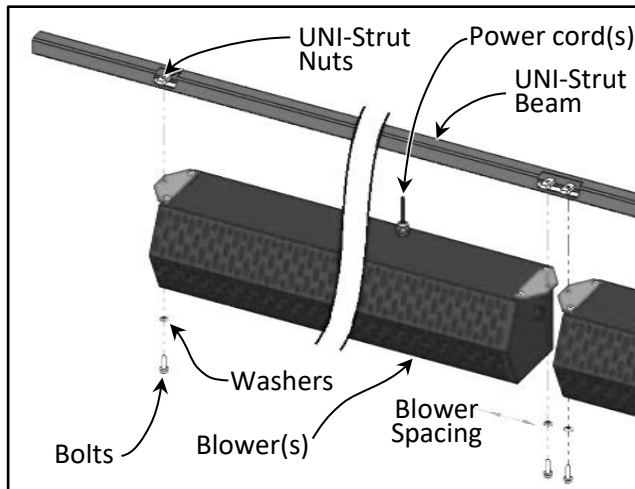
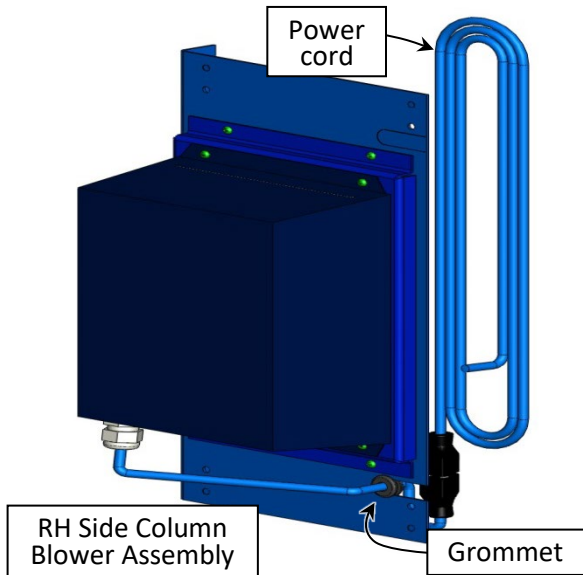
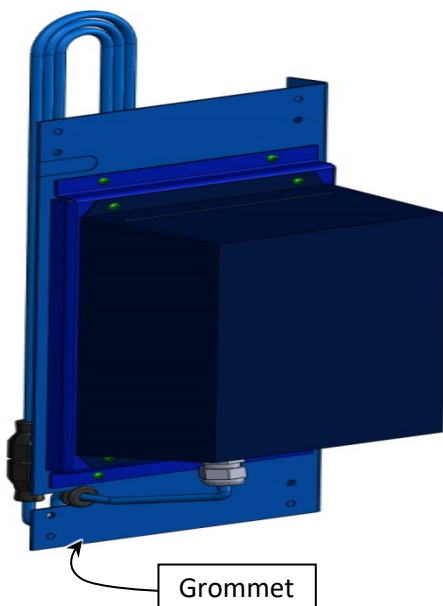
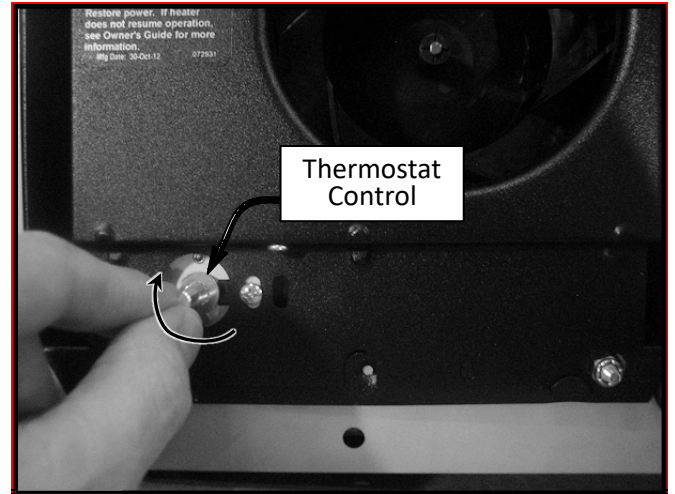

Figure 41
Figure 45
Figure 46
Figure 47
1. Locate and gather all the items in Figure 46. Install each air blower to the UNI-Strut Beam using (2) 3/8-16 x 1.25 in. long hex flange serrated machine screws, Ø3/8 in. flat washers, and 3/8-16 UNI-Strut nuts. Tighten fasteners. Orient the blower(s) with the air intake facing away from the door as shown (See Figure 41)
2. Install the blower mounting brackets to the head assembly with (4) 3/8-16 x 1.25 long Hex Flanged Socket Screws and 3/8 Flat Washers. Both brackets must be aligned and use the same mounting holes on each side of the head assembly mounting plates. (See Figure 41)
The Side Column Heated Blowers are to be installed in the bottom of each side column. They are RH/LH specific, and are **not interchangeable**. Warm air is generated and blown/circulated through the internal side column cavity by the blower and is controlled with a thermostat. (See Figure 45 - Figure 47)
1. Locate and gather all the items in Figure 45/46 along w/ #12-24 x 1/2 Long Hex Flanged machine screws.
5. Confirm that the blower assembly power cords are routed through the mounting plate/grommet as shown. If not, do so. (See Figure 45 and Figure 46)
7. Turn the thermostat control dial clockwise completely to set the blower heat to high. (See Figure 47)